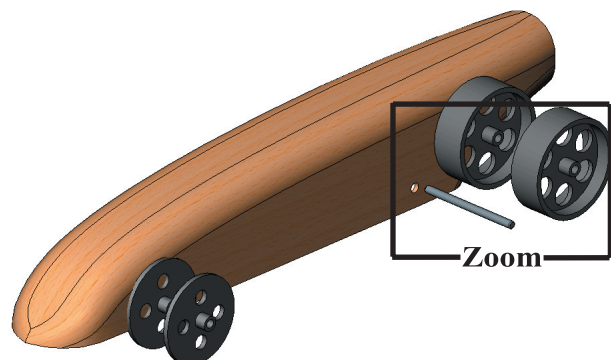

Fig. 9
Step 1. Click Zoom to Fit  (F) on the View toolbar.
Step 2. Use the **Zoom to Area**  in the View toolbar to drag a zoom window around the **rear axle hole and wheels**, **Fig. 9**.